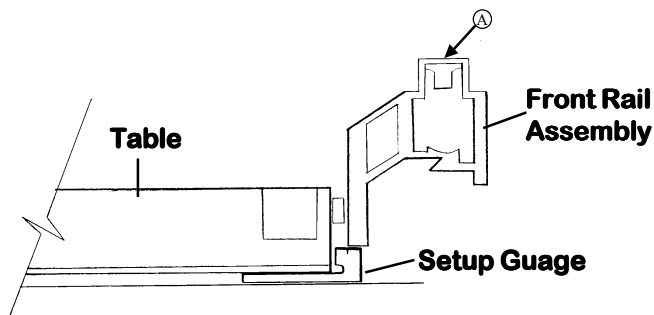

Figure 1
4. With your Saw Table upside-down, slide the two aluminum Alignment Gauges under the front edge of the Table...one near the left corner and the other near the right corner. The thick part of the Gauge should protrude out from under the Table and up towards its underside, as shown In Fig. 1.
8. Thread the Knobs (with springs in position) into the threaded inserts near each end of the Rail Assembly (see A in Fig. 1).